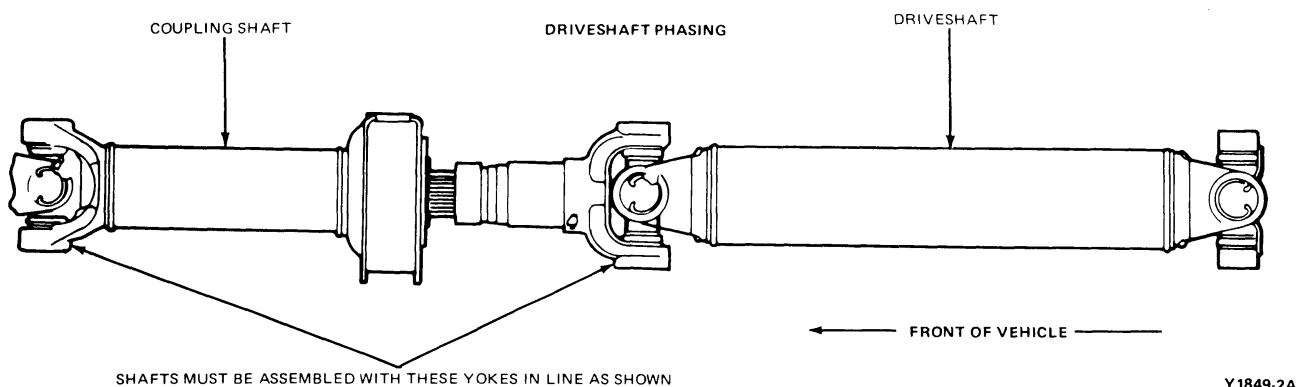
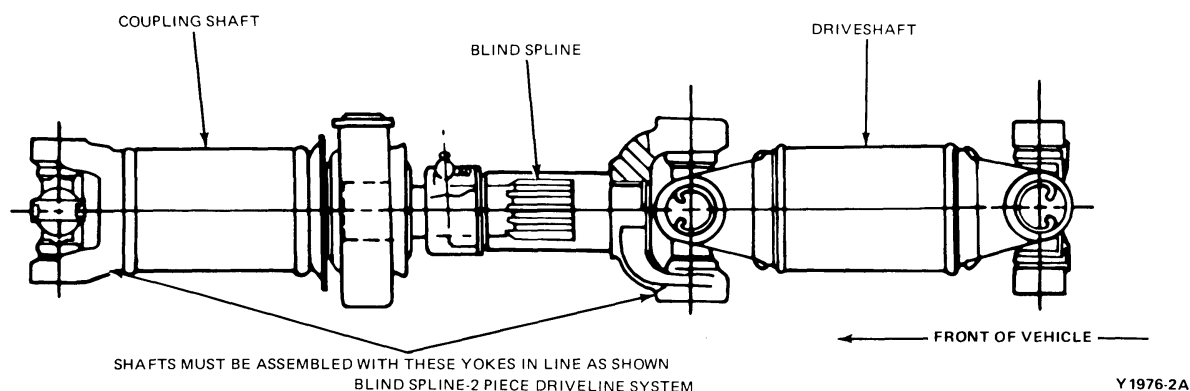
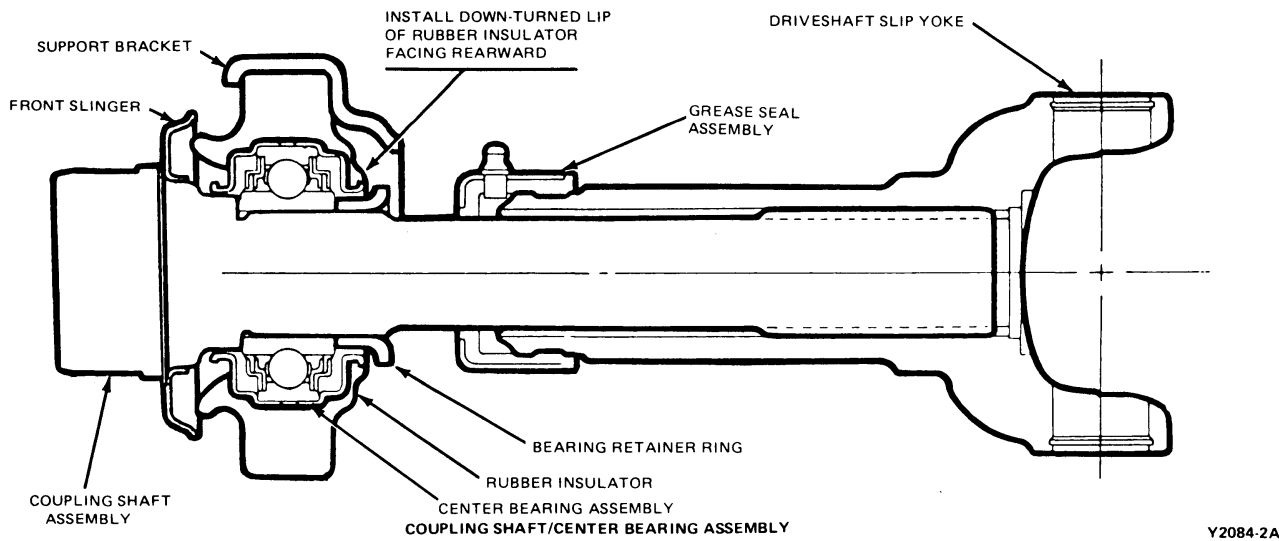

FIG. 11 Driveshaft Phasing—Two-Piece Driveshaft
FIG. 13 Driveshaft Phasing—Two Piece "Blind Spline" Driveshaft with Necked Down Coupling Shaft
FIG. 18 Splash Shield Installation
"Out of phase" driveshafts has been identified as the prime cause of drive away shudder. To assure proper driveshaft phasing, visually check the coupling shaft to determine if the drive shaft slip yoke is in a straight line with the coupling shaft front yoke as shown in Figs. 11 and 12. To correct an "out of phase" condition, re-position the driveshaft slip yoke on the coupling shaft as required. Road test to verify correction. Fig. 13 shows the "blind spline" 2 piece driveline system which can not be assembled out of phase. Fig. 14 shows the "fixed yoke" 2 piece driveline system which must be phased as shown.
5. Reinstall the driveline in the vehicle with the yokes phased properly as shown in Figs. 11 through 14.
6. Before assembling the driveshaft slip yoke to the coupling shaft, slip the splash sleeve over the driveshaft slip yoke. Refer to Fig. 18 (Splash shield can only be installed on 2 piece drivelines as shown in Figs. 11 and 12).
7. Assemble the driveshaft to the couplingshaft with the yokes phased properly (See Figs. 11, 12 and 13). Attach driveshaft to rear axle yoke.
8. Tighten the dust cap of the driveshaft slip yoke finger tight. (Fig. 11, 12 and 13).